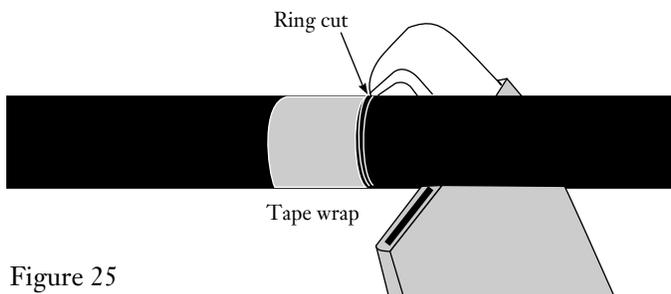

Figure 25
7.4 Taking care not to cut or flex the armor, use the hook blade knife to make a shallow ring cut through *only* the black outer sheath at both tape marks (Figure 25).